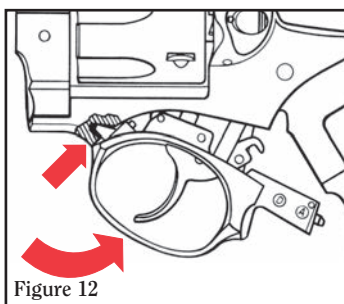
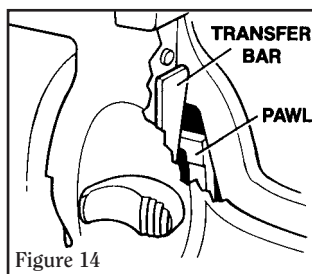

Figure 12
Figure 14
6. Use a screwdriver of appropriate size and insert it through the hole in the frame to depress the trigger guard lock plunger located inside the frame at the rear of the trigger guard. Simultaneously pull down and remove the trigger guard assembly (see Figures 12 & 13). It may be necessary to slightly depress the trigger while removing the trigger guard assembly.
2. Hook the front of the trigger guard into the recess in the frame (see Figure 12, p. 21). Align the pawl in its recess in the frame and be sure the transfer bar is in the correct position in the rear of firing pin. Swing the trigger guard upward into position in the frame then allow the latch to re-engage. If solid resistance is felt when swinging the trigger guard into the frame, or if the trigger guard will not lock into position, re-check the position of the pawl and transfer bar (see Figure 14).